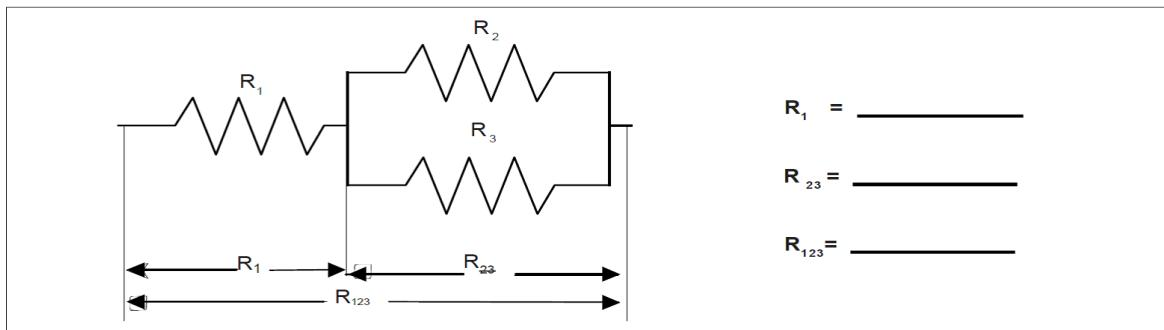

Figure 9: A diagram of the combination circuit.
9. Construct the combination circuit (as shown in figure 9). Measure the resistances of the combinations as indicated on the diagram by connecting the leads of the multimeter between the points at the ends of the arrows. Record your results in figure 9. Do the resistance match your expectations based on the rules for adding resistors in parallel and series?